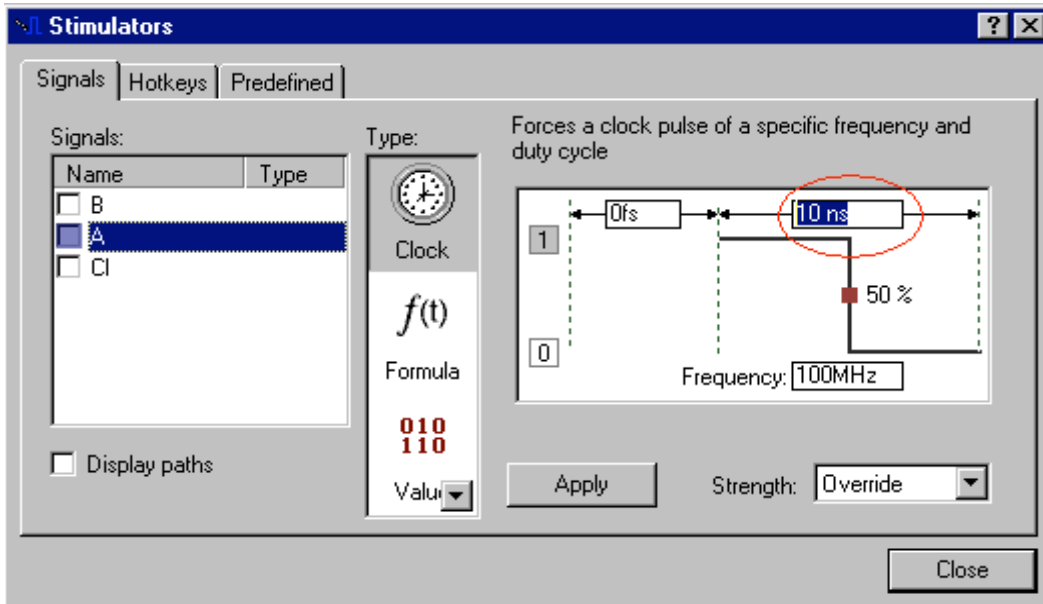

Figure 37
11. With the Stimulators window still opened, you can set additional signals by clicking the signals in the left side of the waveform. Once you have added all three input signals (i.e. A, B, and Cl), choose a clock period of 10 ns for A by entering the time in second box from the left at the top of the window (see Figure 37). Click the Apply button.